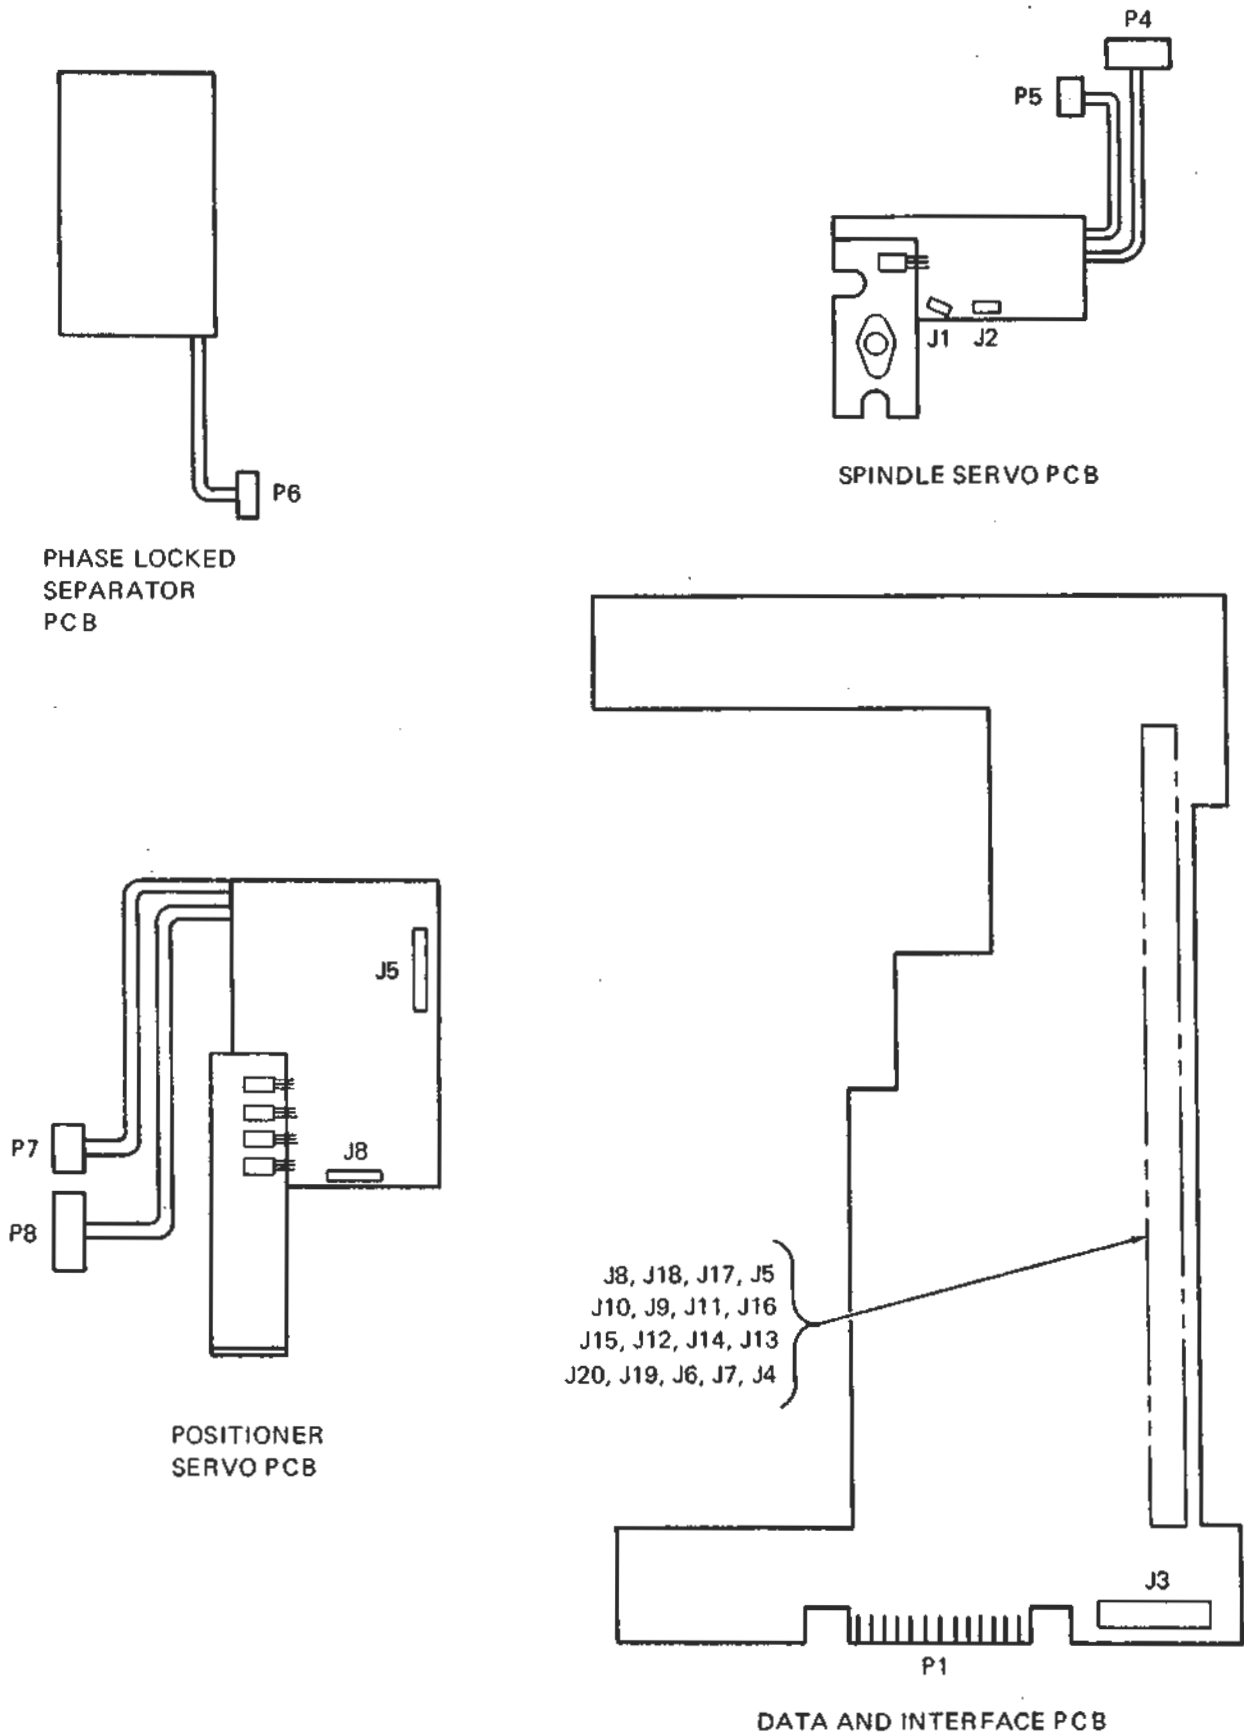

Figure 2-1. Plugs and Jacks Identification
The interconnecting plugs and jacks are listed in Table 2-1 and identified in Figure 2-1. The connector pins should be checked for cleanliness and total contact if intermittent problems are encountered.
- d. Remove drive motor connector P1 at spindle servo PCB. (Figure 2-1.)